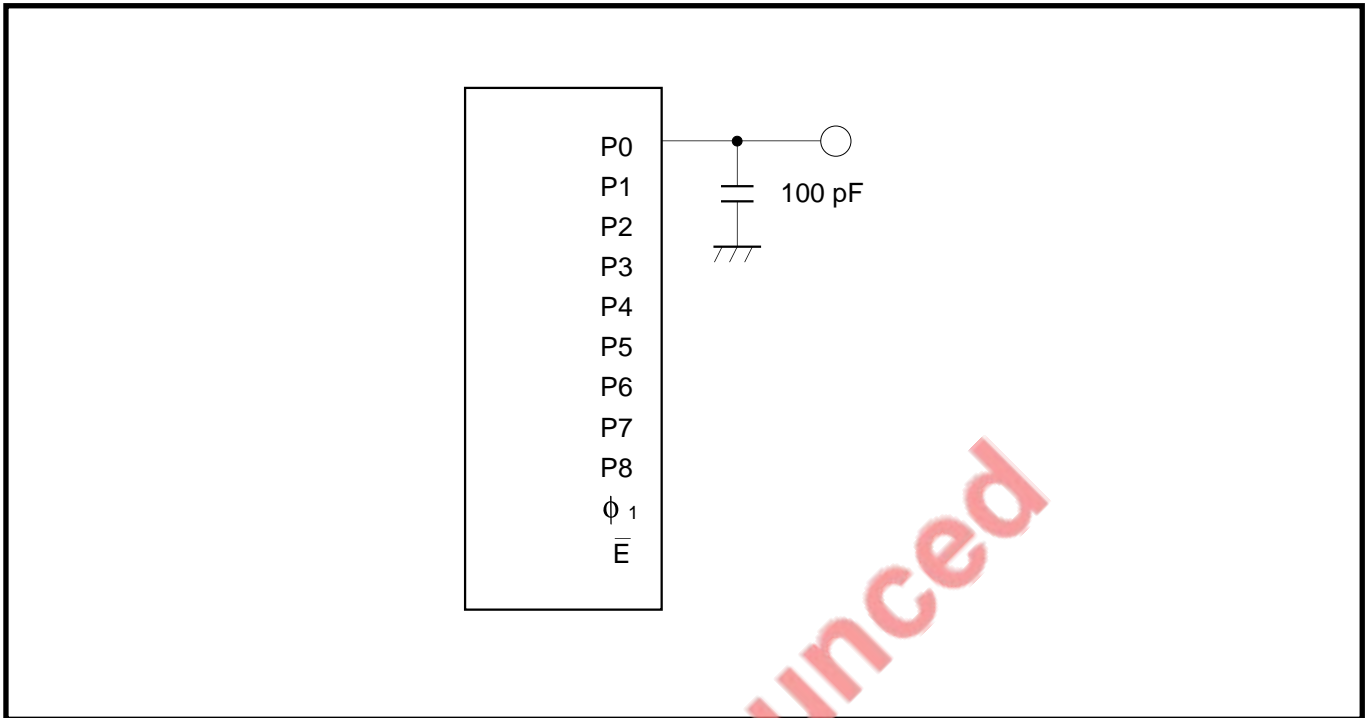

Fig. 18.4.1 Testing circuit for ports P0 to P8,  $\phi_1$ , and  $\bar{E}$
**Note:** For test conditions, refer to Figure 18.4.1.